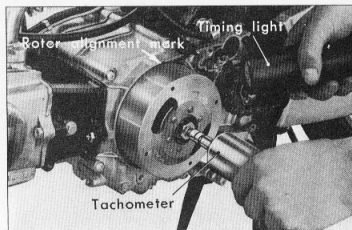

Figure 6-8. Adjusting the ignition timing advance
- (1) Produces knocking and drop in power output. In severe cases, damage to piston, connecting rod, crankshaft may result, therefore, periodic inspection should be performed.
- (2) Upon completion of the point gap and ignition timing adjustment, check for proper operation of the spark advancer with a timing light. (Fig. 6-8)